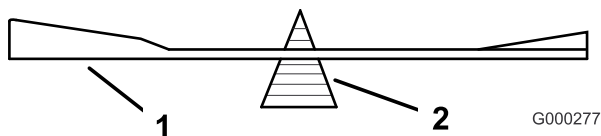

Figure 94
2. Check the balance of the blade by putting it on a blade balancer (Figure 94). If the blade stays in a horizontal position, the blade is balanced and can be used. If the